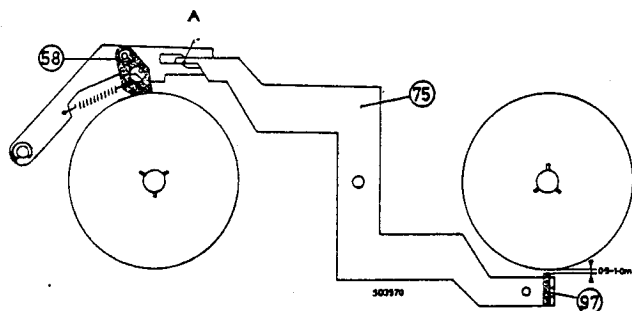

Fig. 1
2. Improved brake construction (See Figs. 1 and 2)
Ensure that recorder is in STOP position. Press brake shoe 58, Figs. 1 and 2, to the left. Bend lug A so that in this position of brake shoe 58, the distance between the right-hand turntable and right-hand brake shoe 97, is 0.5 to 1.0 mm.